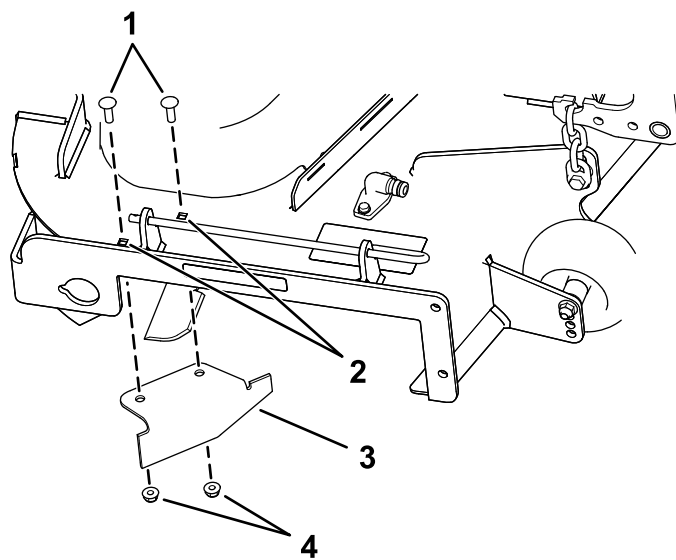

Figure 34
9. Locate the cutoff baffle in the loose parts bag and remove the fasteners at the rear holes of the discharge plate (Figure 34).